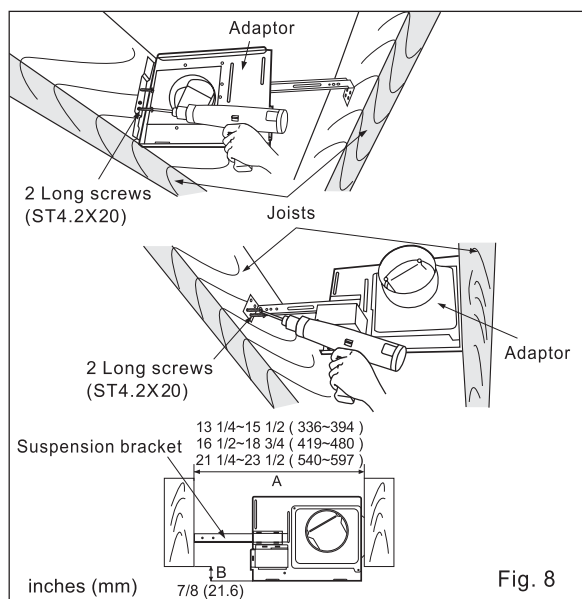

Fig. 8
2. Insert the suspension bracket into the adaptor and secure it to joists by using long screws (ST4.2X20) (Fig. 8) Keep the distance B (7/8 inch, 21.6mm) for the thickness of ceiling board.
3. Remove adaptor from fan body and secure it to joists as in Fig.8 of page 7.